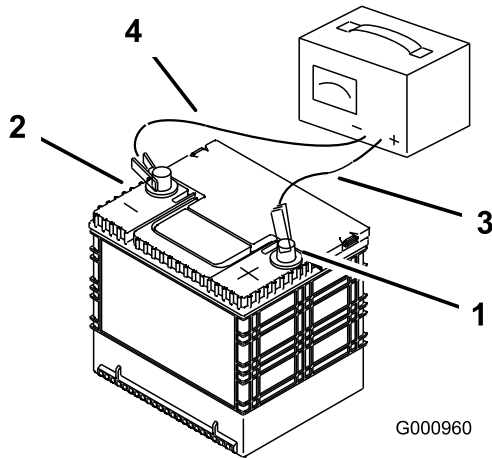

Figure 39
2. When the battery is fully charged, unplug the charger from the electrical outlet; then disconnect the charger leads from the battery posts (Figure 39).